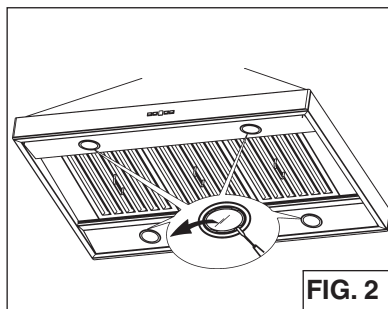

FIG. 2
1. Open the cover by gently prying from proper slots (Fig.2).